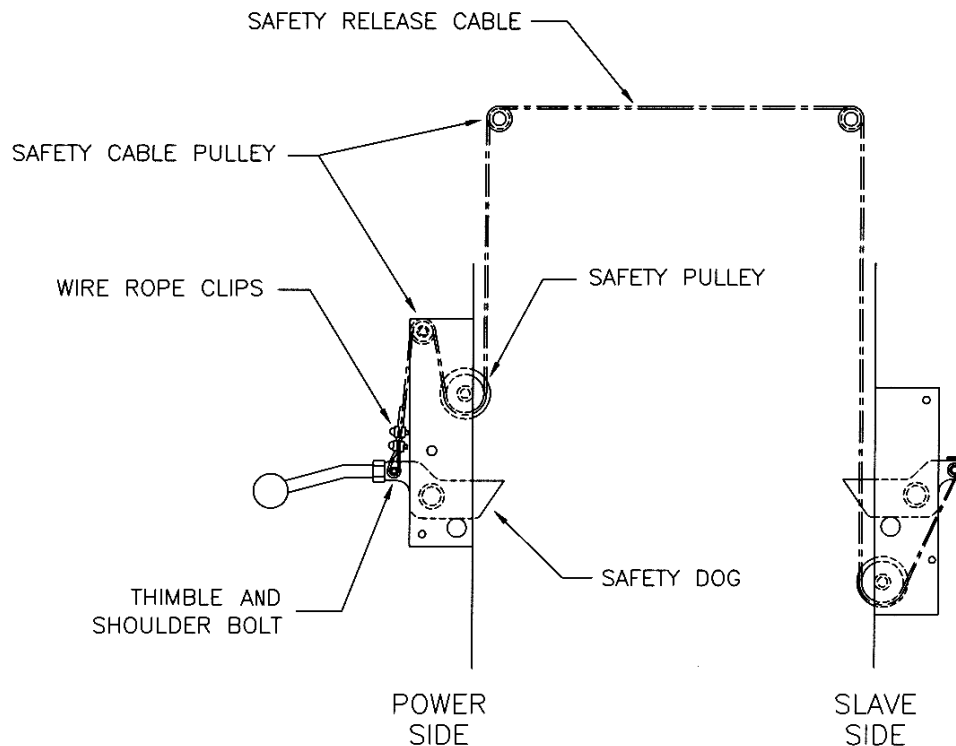

Figure 12 – Safety Release Cable Routing and Adjustment
2. Refer to **Figure 12** for safety release cable routing. The end of the cable that has a collar attaches to the slave side safety dog. The free end is fixed to the power side safety dog using two (2) wire rope clips.
7. Guide the cable up under the large pulley and then over the small pulley towards the safety dog. Wrap the cable around the thimble (attached to the safety dog with a 3/8" x 1/2" lg. shoulder bolt) and then clamp it using two (2) wire rope clips. Do not tighten fully at this stage.